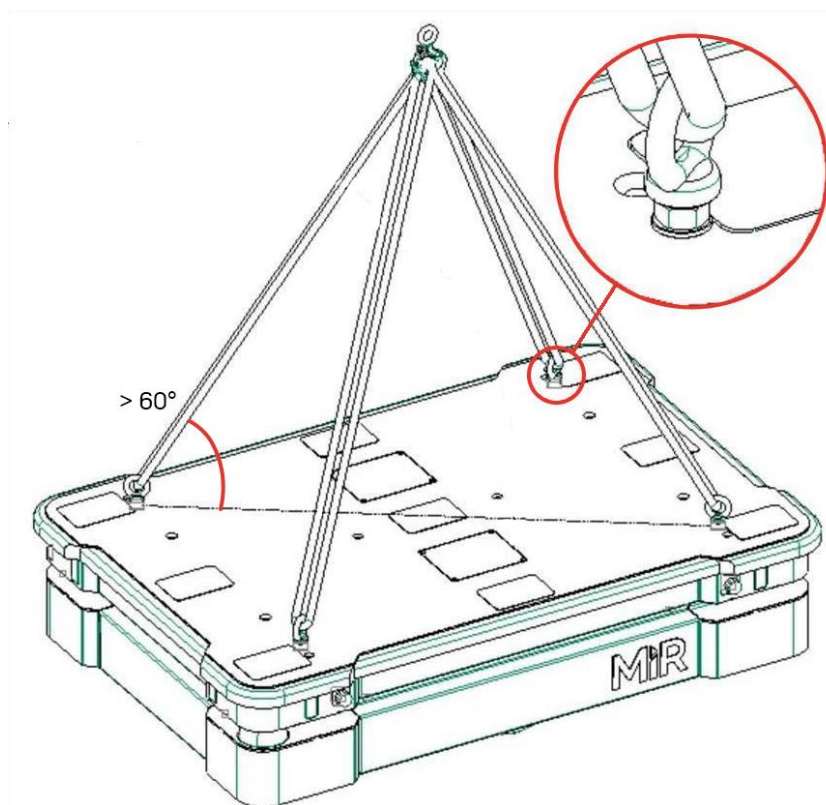

Figure 14.1. Illustration of how to lift MiR500.
It may be necessary to lift the robot while servicing it. To lift the robot, use the four M12 mounting holes in the corners of the top cover of the robot—see **Figure 14.1**.
- The angle between the top cover and sling must be greater than 60°—see **Figure 14.1**.